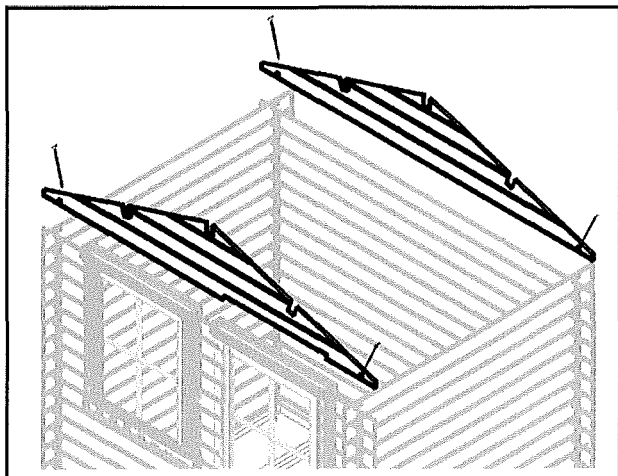

FIG 8
4. Fix with 80mm screws (fig 8). Repeat with the other gables.